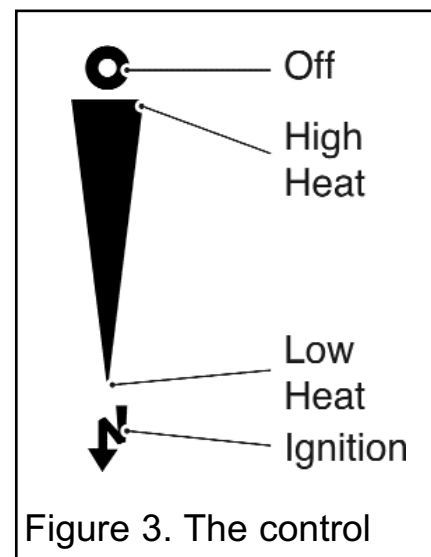

Figure 3. The control
The slide control is shown in figure 3.
3. If low heat is required, release the button. The button will automatically spring up to the low heat position shown in figure 3 (See note i below). If for any reason the slider control does not spring up, raise the slider to the off (O) position (Topmost position) and contact your installer. Do not use the fire until the problem has been rectified.
4. For a higher heat level slide the button upwards. The burner flames and heat output will gradually increase until the button reaches the high heat position shown in figure 3. When the button reaches the high heat position you will feel a check to its movement. **Do not slide the button above the high heat position unless you want to turn the fire off** (See note i below).